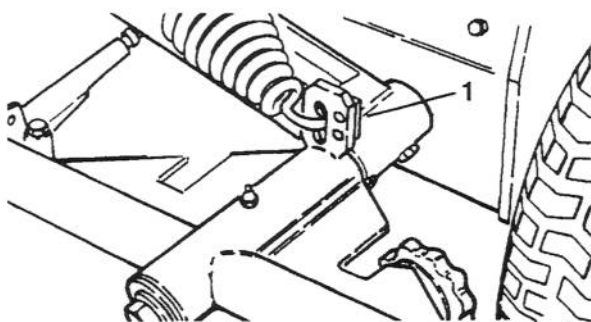

Figure 49
1. Hook one end of the spring into the second hole (from bottom) on the cutting unit lift tab (Fig. 49).